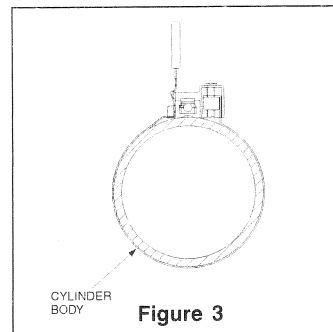

Figure 3
2. Mount onto cylinder by pulling band around the cylinder body then through the housing slot. Pull band tight and catch one of the slots on the strap to the housing tab shown in **Figure 3**.